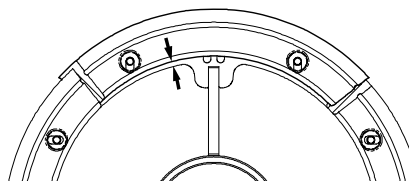

Figure 3
6. Inspect the cleaning disc blades while inside the unit. If the spacing between the edge of the blade and the inside edge of the plate is approximately 1/8" then the blades need to be replaced. See Figure 3.